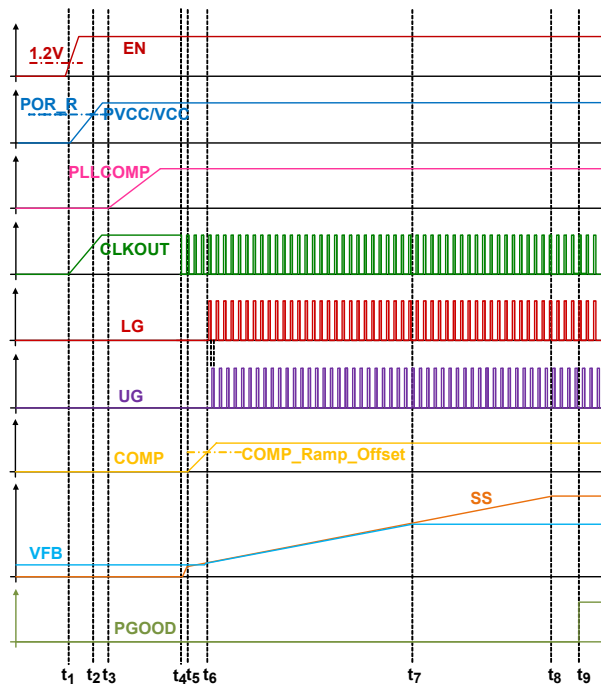

FIGURE 67. CIRCUIT INITIALIZATION AND SOFT-START
- There is no limit for the minimum voltage on the TRACK pin, but note the lower reference voltage and the lower voltage feedback regulation accuracy. Note the SS_DONE signal is checking $V_{REF_TRK} \geq 0.3V$ as one of the conditions (refer to t_g - t_g description on page 31 and Figure 67 on page 30). Also, for the boost converter, the regulated output minimum voltage is usually the input voltage minus the upper MOSFET's body diode drop, in which case, the corresponding voltage at FB voltage is the minimum effective voltage for the V_{REF_TRK} and V_{REF_DAC} .
Before converter initialization, the EN pin voltage needs to be higher than its rising threshold and the PVCC/VCC pin needs to be higher than the rising POR threshold. When these conditions are met, the controller begins initialization and soft-start. Figure 67 shows the ISL78229 internal start-up timing diagram from the power-up to soft-start.
Assuming input voltage is applied to the VIN pin before t_1 and VCC is connected to PVCC, as shown on Figure 67, the descriptions for start-up procedure is elaborated in the following:
Diode emulation occurs during t_5 - t_8 (on Figure 67 on page 30), regardless of the DE/PHDRP operating modes (Table 2).